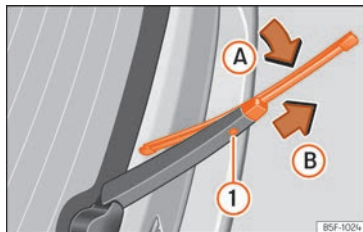

Fig. 153 Changing the rear wiper blade
- Rotate the blade lightly >>> Fig. 153 (arrow A).
- Hold down the release button ① while gently pulling the blade in the direction of arrow B.
- Insert a new blade of the **same length and type** in the rear wiper arm in the opposite direction to the arrow B until button ① hooks into place.